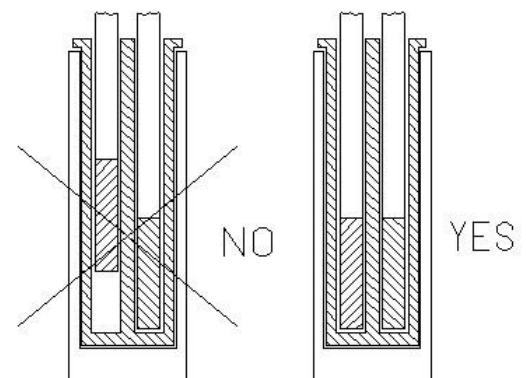

Fig.3
- Calibration with a reference: take care to position the two probes, the standard one and the calibration one, at the same dept and as close together as possible (fig. 3).